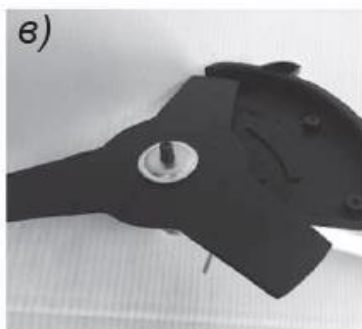

Fig. 4c
4. Install the washer. (Fig. 4c)